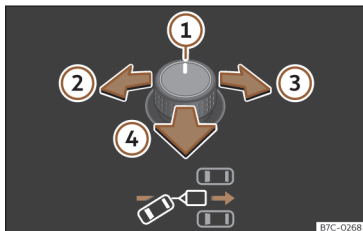
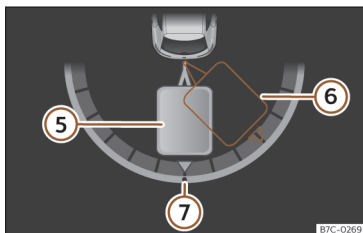

Fig. 187 Rotary exterior mirror controls: adjust the trailer angle.
Fig. 188 Instrument panel display: engage reverse gear
Key of the **Fig. 187**, >>> **Fig. 188**:
- Tilt the rotary control until the desired direction is reached >>> **Fig. 187**. A representation of the tow vehicle and trailer set is shown on the instrument cluster screen for guidance purposes >>> **Fig. 188**.